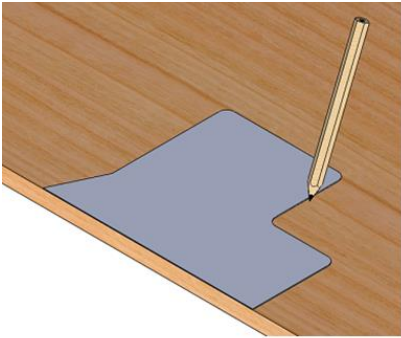
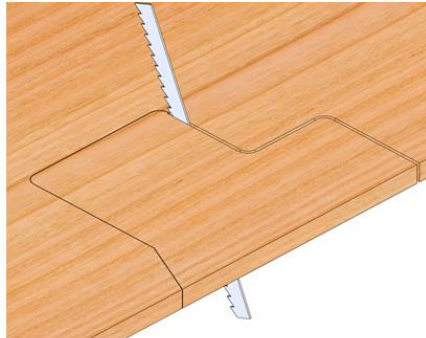

Fig 9
Fig10
- Please use assembly fixture enclosed with machine, prepare artificial board 20mm thick for using formwork to trace out the cutting shape(Fig9, Fig10)